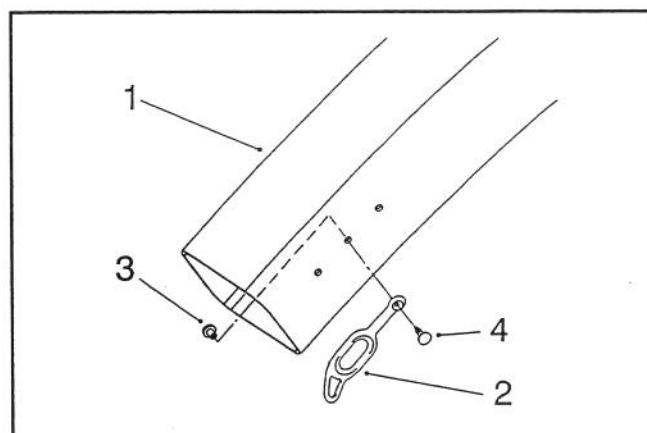

Figure 10
2. Attach the rubber latch to the middle hole in the discharge tube using the plastic two-piece fastener (Fig. 10). Install the flanged spacer through the hole in the discharge tube from the inside. Place the rubber latch (grip tab up) over the spacer shaft, then insert the barbed fastener into the hole in the flanged spacer and push them together.